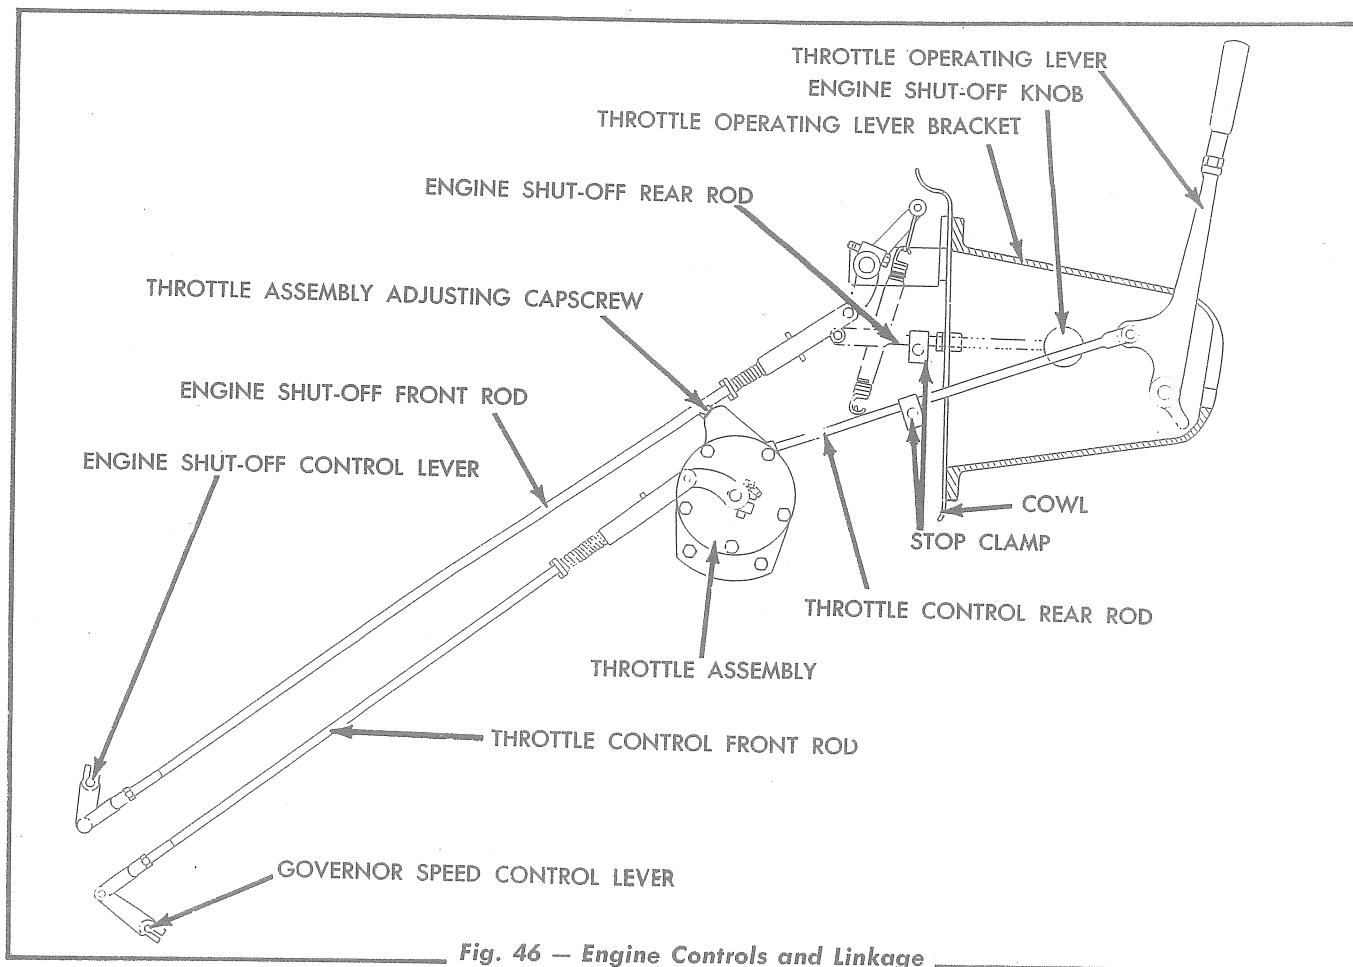

Fig. 46 — Engine Controls and Linkage
2. Loosen the small stop clamp (Fig. 46), located on the engine shut-off rear rod, then pull the engine shut-off knob back as far as it will go. Push the shut-off knob forward $\frac{1}{16}$ " , then move the stop clamp rearward on the shut-off rear rod so that it contacts the rod guide boss (welded in cowl) and tighten the clamp securely. With the stop clamp in this position, the clamp will serve as a stop and will prevent imposing undue strain on the shaft for the fuel shut-off lever when the engine shut-off knob is pulled back to stop the engine.
3. Loosen the stop clamp (Fig. 46), located on the throttle control rear rod, then pull the throttle operating lever all the way back (high speed position), and make certain the throttle linkage moves the governor speed control lever rearward as far as it will go; shorten or lengthen the throttle control front rod as necessary by turning the control rod yoke. Push the throttle operating lever forward $\frac{1}{16}$ " from its high speed position, move the stop clamp rearward on the throttle control rear rod so that it contacts the cowl, and tighten the stop clamp bolt. With the stop clamp in this position, the clamp will serve as a stop and will prevent imposing undue strain on the governor speed control lever shaft when the throttle operating lever is moved to the high speed position.
4. A throttle assembly (Fig. 46), mounted on the front side of the cowl and containing a friction band, is provided in the throttle control linkage for the purpose of holding the throttle operating lever in any desired speed position between low idle and high speed position. If the throttle operating lever will not remain stationary when moved to the desired speed position, adjustment of the throttle assembly is necessary. Remove the cotter pin from the throttle assembly adjusting capscrew (Fig. 46) and turn the capscrew IN to increase or OUT